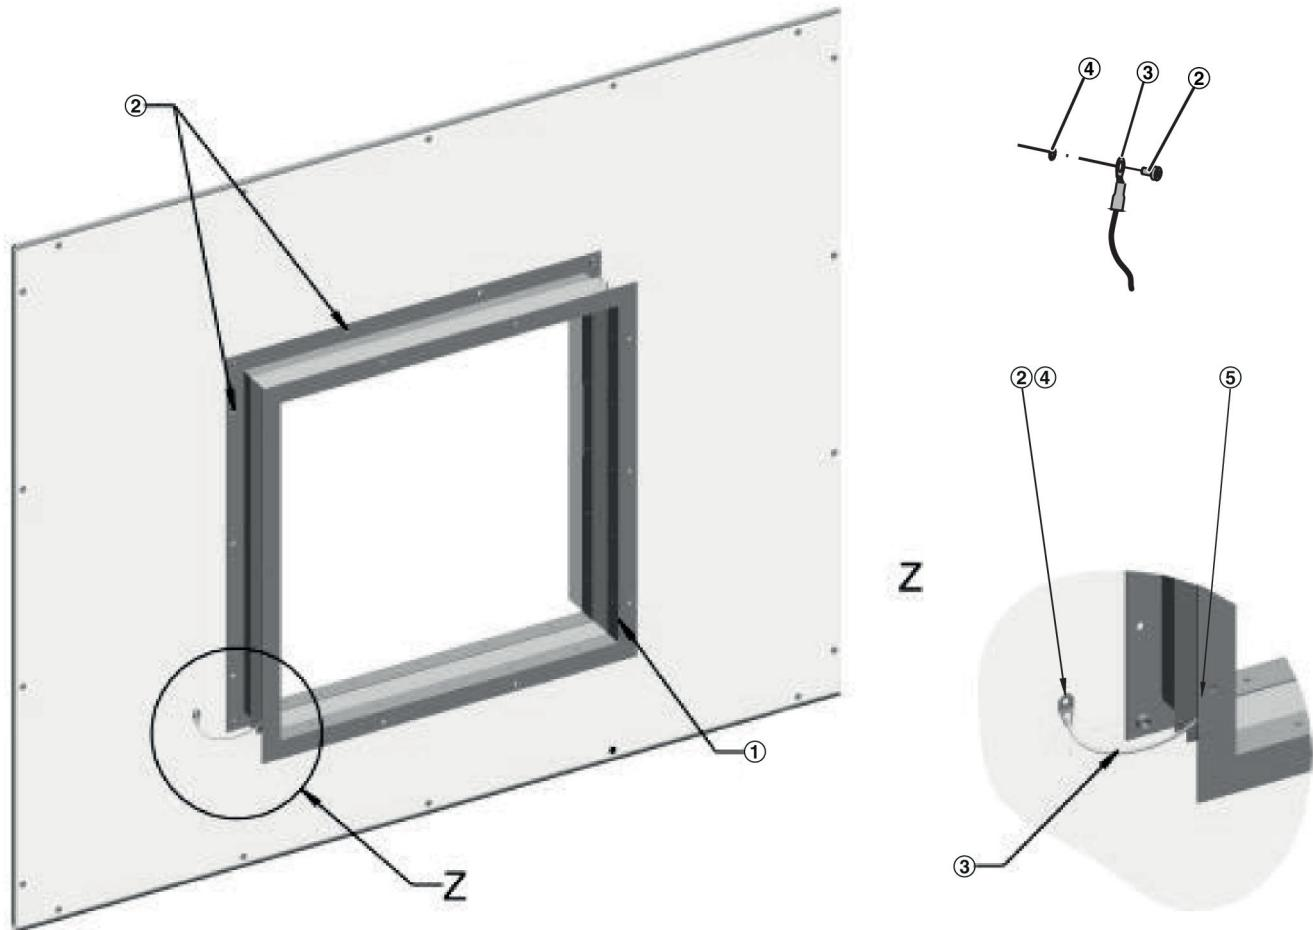

Fig. 15: Flexible connector
①	Flexible connector
②	Thread forming pan head screw	M852AC6
③	Ground cable
④	Schnorr washer	A00000055655
⑤	Secure all screw joints.	By others
- ▶ Fix the flexible connector (Fig. 15 /1) with screws (Fig. 15 /2) to the AHU.
- ▶ Fix one eye of the ground cable (Fig. 15 /3) with a screw (Fig. 15 /2) and a Schnorr washer (Fig. 15 /4) to the panel of the AHU. Fix the other eye of the ground cable to the duct (conductive) and secure it (Fig. 15 /5).